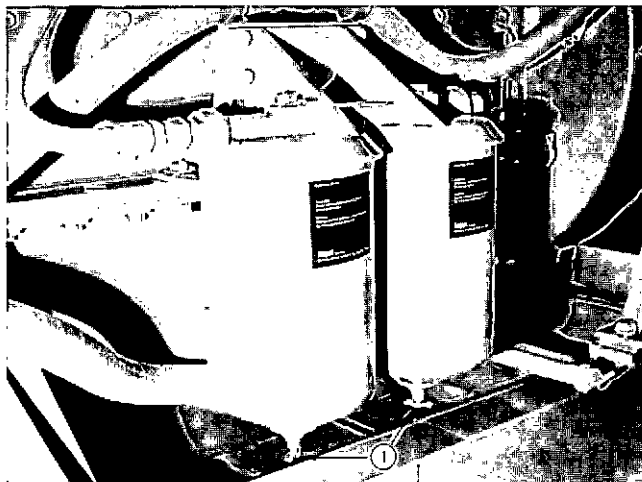

Fig. 5-5, V41927. Fuel filter drain cocks
1. Open drain cocks (1, Fig. 5-5), if used, at bottom of fuel filter case and drain out any accumulated water and sediment. Tighten the drain cock. If drain plug is used, tighten to 5 to 10 ft lb [0.6915/1.3830 kg m].